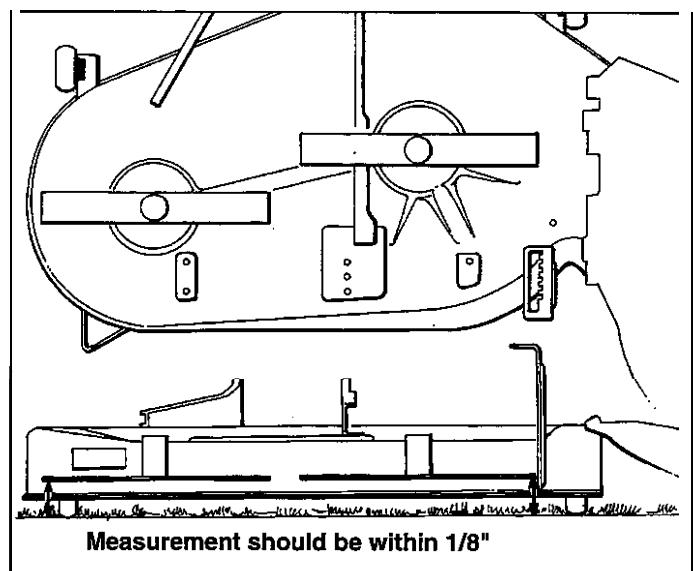

Figure 24. Leveling the Mower Deck Side-to-Side
3. Place the mower in high-cut position. Arrange the mower blades so that they are both pointing from side-to-side (figure 24).
4. See figure 24. Measure the distance between the outside tips of each blade and the ground. If there is more than  $1/8"$  (3mm) difference between the measurements on each side, proceed to step 5. If the difference is  $1/8"$  (3mm) or less, proceed to step 6.